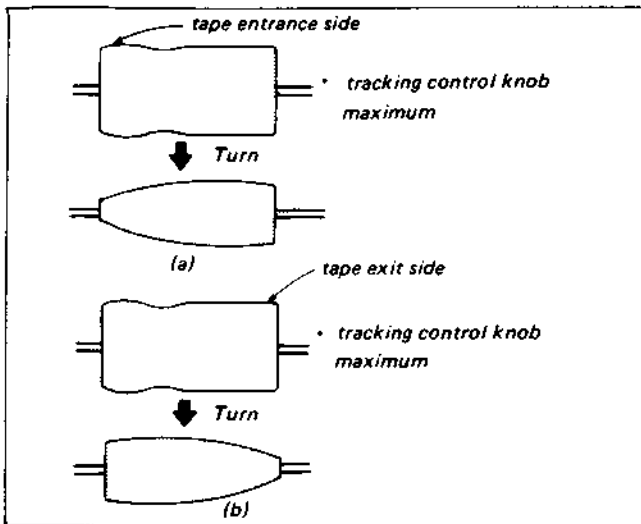

Fig. 4-3
- 6) If the tracking control knob is turned and the entrance waveform does not flatten as shown in Fig. 4-3(a), perform the entrance side adjustment in 4-1-2. If the exit waveform does not flatten as shown in Fig. 4-3(b), perform the exit side adjustment in 4-1-3.